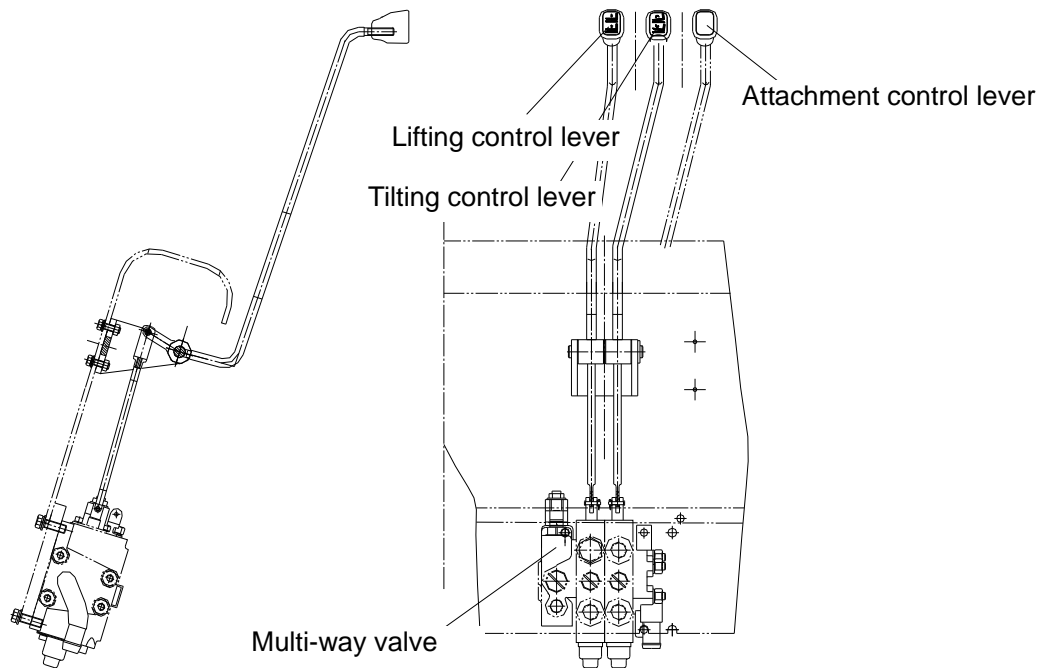

Fig. 2-54 Control of Multi-way Valve
(4) Operation of Multi-way Valve (Fig.2-54)